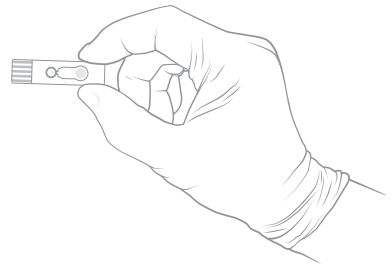

Figure 2
- Holding sensor at front side edges (Figure 2), insert the MiOXSYS Sensor face-up and with the sensor electrodes facing the MiOXSYS Analyzer. Align the socket insertion end with the sensor socket on the MiOXSYS Analyzer. Make sure the sensor is fully inserted before continuing the test procedure.